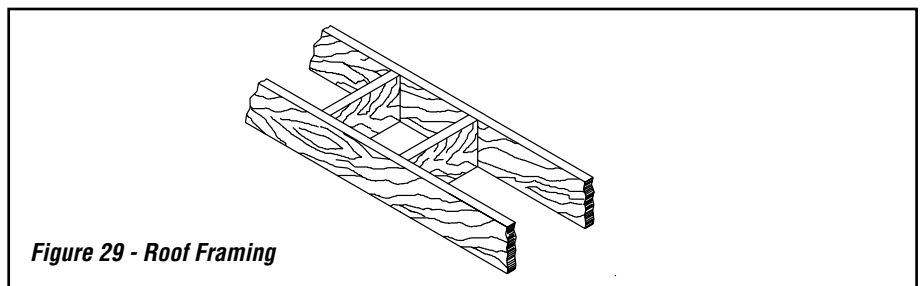

Figure 29 - Roof Framing
1. Cut and frame the holes in the ceiling, floor and roof where the chimney will pass (see **Figure 29**). Use a plumb-bob to line up the center of the holes. The sizes are indicated in **Table 2** for the floor and ceiling holes and **Table 3 (Page 19)** for the roof holes.